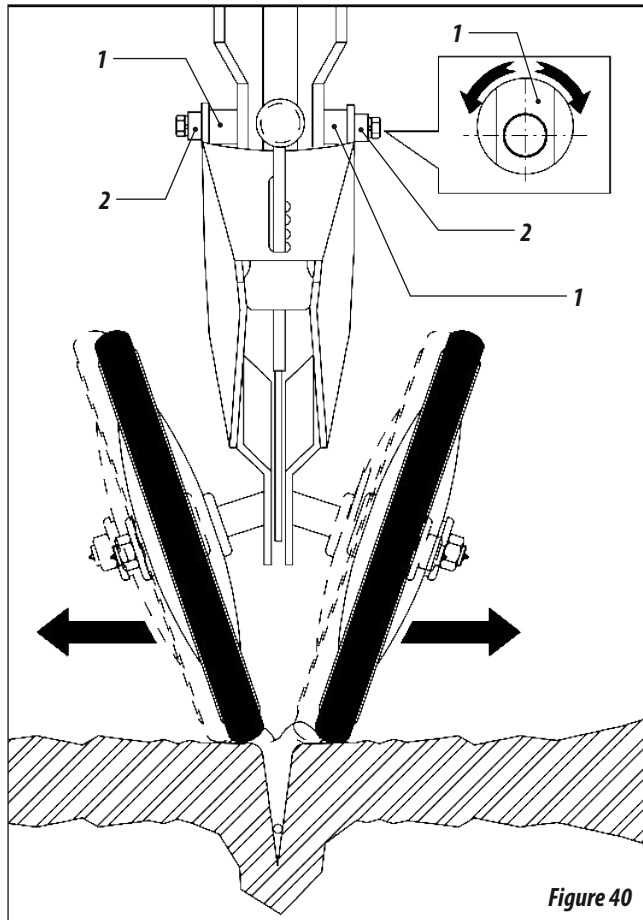

Figure 40
17- For horizontal displacement of the wheels, they were developed with eccentric bushings (1), for this adjustment loosen the screws (2) rotate the said bushing (1), with a key to performance and alignment of the wheels with the same groove, placing greater or lesser amount of soil the seed side. **Figure 40.**